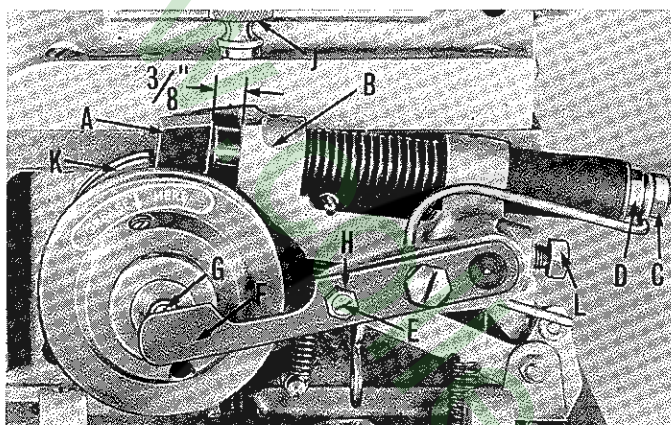
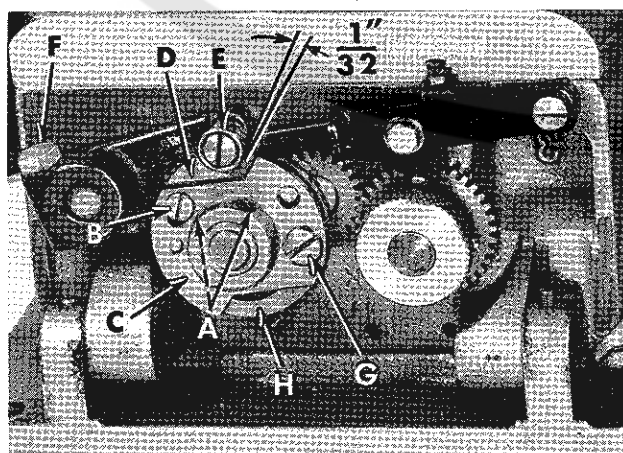
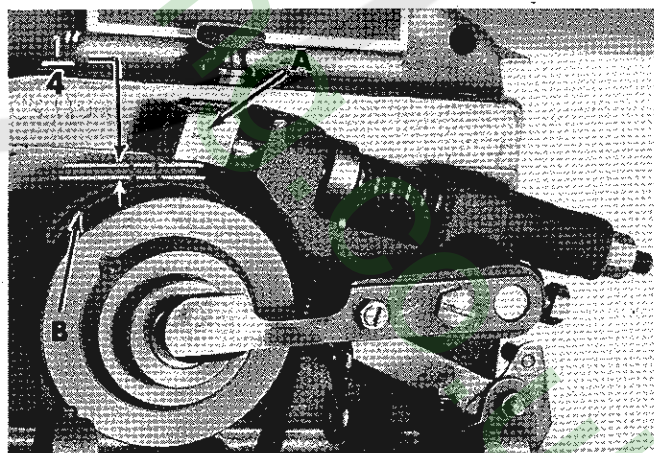
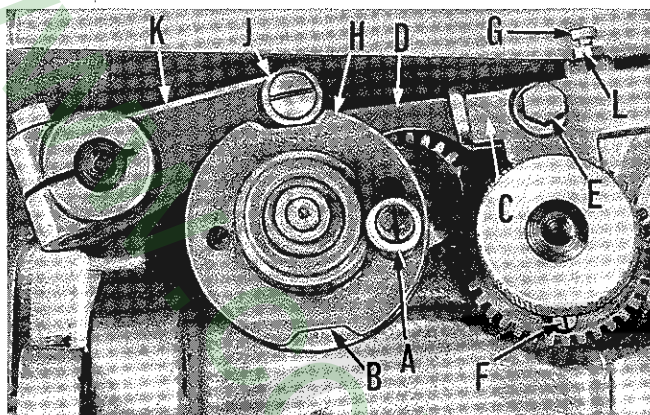

Fig. 1
Fig. 2A
Fig. 3A
Fig. 5
This position is that which is shown in Fig. 1 with the stop motion disc and pawl (K) against the plunger (A).
With the machine in stop position, the stop motion plunger (A, Fig. 1) should be set so that there is  $\frac{3}{8}$  inch clearance between the bottom of the plunger and the plunger lever bracket (B). Loosen the back lock nut (C), and adjust the front nut (D) to obtain this setting. Lock the back nut. Adjust screw (E) in cam lever (F) so that there is  $\frac{1}{32}$  inch clearance between ball (G) and the thin section of lever (F) when the pulley is pressed in towards machine. Lock screw with nut (H). Make sure that set screw (L) is securely tightened.
With the machine in stop position, loosen the two socket head set screws (A, Fig. 2A) and screw (B). Rotate "left cam" (C) counterclockwise to the top of its elongated slot (as viewed in Fig. 2A) and tighten screw (B). Rotate cam (C) and "right cam" (D) as required to obtain  $\frac{1}{32}$  inch clearance between roller (E) and the front of slot in cam (D); tighten set screws (A).
Depress the treadle to take machine out of stop position, then rotate pulley two complete revolutions in operating direction. Release treadle and measure the distance between plunger (A, Fig. 3A) and the highest point on disc (B). The distance should be  $\frac{1}{4}$  inch. Adjustment can be made by loosening clamp screw (F, Fig. 2A) in the stop motion trip lever and moving lever up or down to attain specified clearance. Should it become necessary to move the lever down, depress the treadle while making adjustment. Retighten clamp screw (F).
- Step 1.** With the machine in stop position, loosen screws (A, Fig. 2A) and screw (B). Advance "left cam" (C) by rotating it clockwise, SLIGHTLY, relative to the "right cam" (D). Retighten screws (A and B) after referring to NOTE 1 above.
- Step 3.** Should disc and pawl (K, Fig. 1) stop short of plunger (A), (this can be checked by rotating disc towards the operator and if the plunger does not catch the disc and pawl, the machine has not reached its stopped position), denoting cam is advanced beyond proper setting. To correct: retard "left cam" (C, Fig. 2A) by rotating it counterclockwise, SLIGHTLY, relative to the "right cam" (D). Refer to NOTE 1 above, before securing screws (A and B).
**NOTE: 2.** With reference to (A, Fig. 5) under "STITCH SETTINGS", the stitch adjusting knob has been replaced by screw (G, Fig. 2A) which secures cam shoe (H) using the upper or lower hole in "left cam" (C), as applicable.
Depress treadle to take machine out of stop position, and rotate pulley two complete revolutions in operating direction. Loosen knurled screw (J, Fig. 1) and lay machine on its side.
Figure 5 shows the machine in stop position, and set for 12 or 16 stitches. The stitch adjusting knob (A) is at its low position at the bottom of the slot and the gap (B) is closed. To change to 6 or 8 stitches, simply pull out on the stitch adjusting knob (A) and raise it to the top of the slot. At this point, the gap (B) will be open.
When changing from 6 or 8 to 12 or 16 stitches, the machine must be in stop position with the stitch adjusting knob (A, Fig. 5) towards the front. Pull out on the stitch adjusting knob (A) and move it to the bottom of its slot as shown in Fig. 5. Gap (B) will now be closed.
When changing from 6 or 8, or 12 or 16, to 24 or 32 stitches, the machine must be in stop position with stitch adjusting knob (A, Fig. 5) to the front. If the machine is in the 6 or 8 stitch position, pull out on the stitch adjusting knob (A) and move it to the bottom of its slot. Check position of screw (F). It should be at the bottom as shown in Fig. 5. If it is not, the machine will have to be re-cycled once to bring screw (F) into proper position.